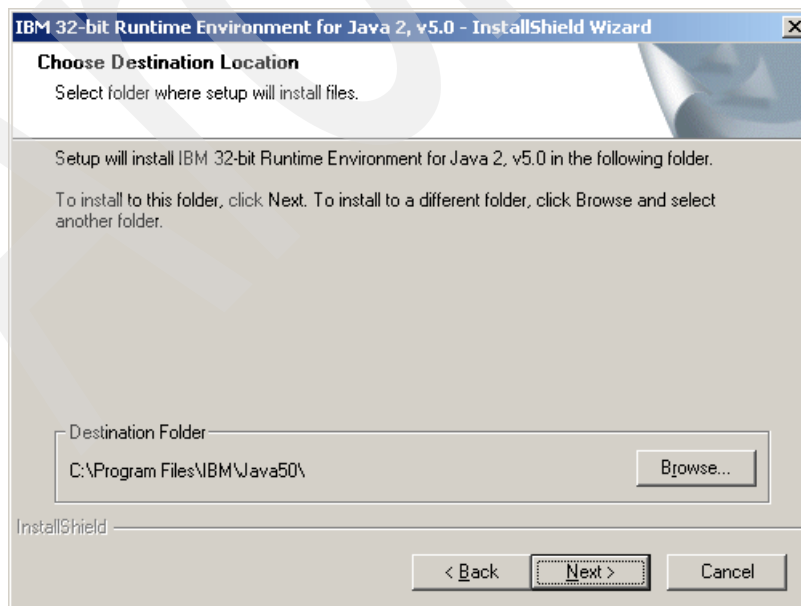

Figure 6-4 JRE destination folder
3. The Choose Destination Location window (Figure 6-4) is displayed. You can change the destination folder if you want. Make a note of the folder path because you require it to start the EKM server at a later step. Click **Next**.